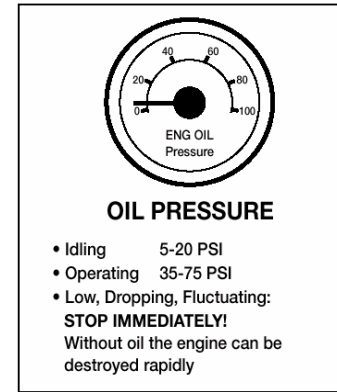

FIGURE 2.5
- Oil pressure. Should come up to normal within seconds after engine is started. See Figure 2.5